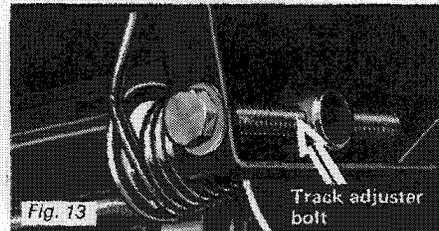

Fig. 13
1. Using wrench, loosen both track adjusters by unscrewing the lock nuts situated on the inner side of the suspension springs (See Fig. 13).